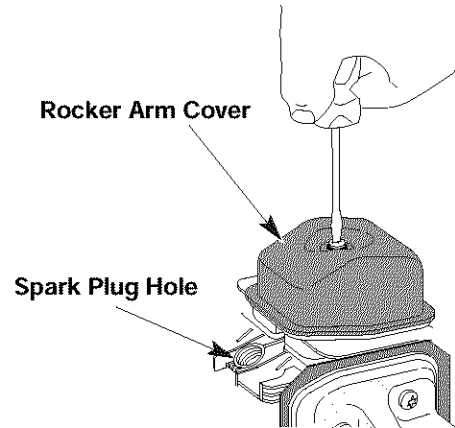

Fig. 39
7. Clean dirt from around the rocker arm cover. Remove the screw holding the rocker arm cover with a large flat blade screwdriver or Torx T25 bit (Fig. 39). Remove the rocker arm cover and gasket.
- The piston is at the top of its travel while looking in the spark plug hole (Fig. 39).